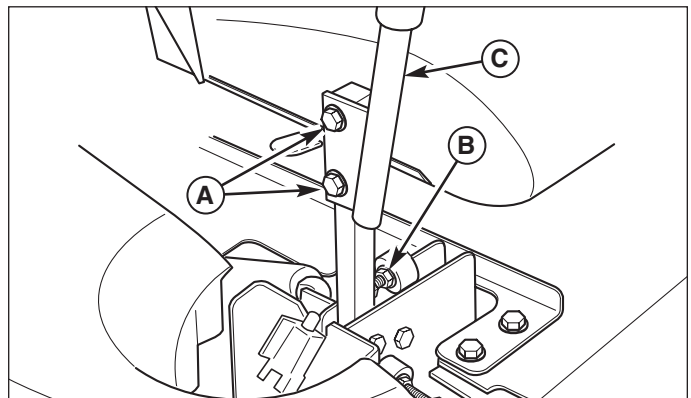
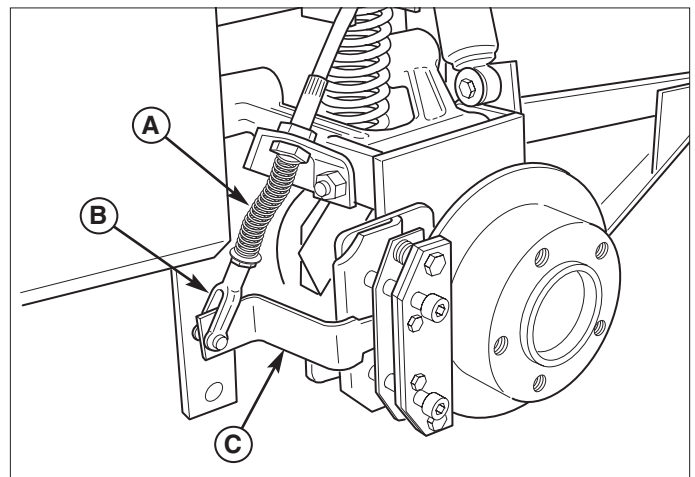

Figure 30. Control Lever Adjustment
Figure 35. Parking Brake Adjustment
Loosen the mount hardware (A, Figure 30) and pivot the lever(s) (C, Figure 35) fore or aft to align with each other.
Loosen the jam nuts and adjust the placement bolt (B, Figure 30) in or out to properly adjust the lever end spacing.
Remove the mounting hardware (A, Figure 30) and reposition the handle either up or down from its original position. You will need to readjust the handle alignment as described above.
5. Locate the lower brake spring and adjustment clevis (A & B, Figure 35).
6. Release the parking brake and disconnect the clevis (B) from the caliper lever (C). Turn the clevis to compress or release the upper spring. Lock the nut against the clevis and reinstall the clevis onto the caliper lever.